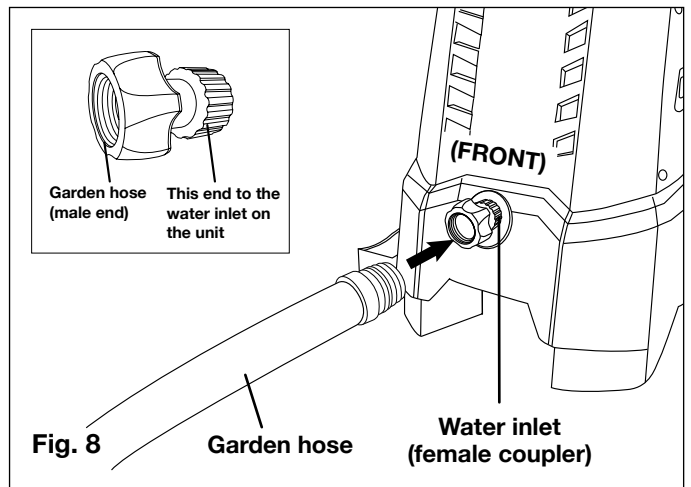

Fig. 8
8. Connect the garden hose adaptor (female coupler) to the water inlet of the pressure washer, then thread your garden hose (male end) into the garden hose adaptor (Fig. 8). The garden hose must have an internal diameter of at least 13 mm (1/2 in.) and must be reinforced. The water supply must be at least equal to the washer delivery capacity.